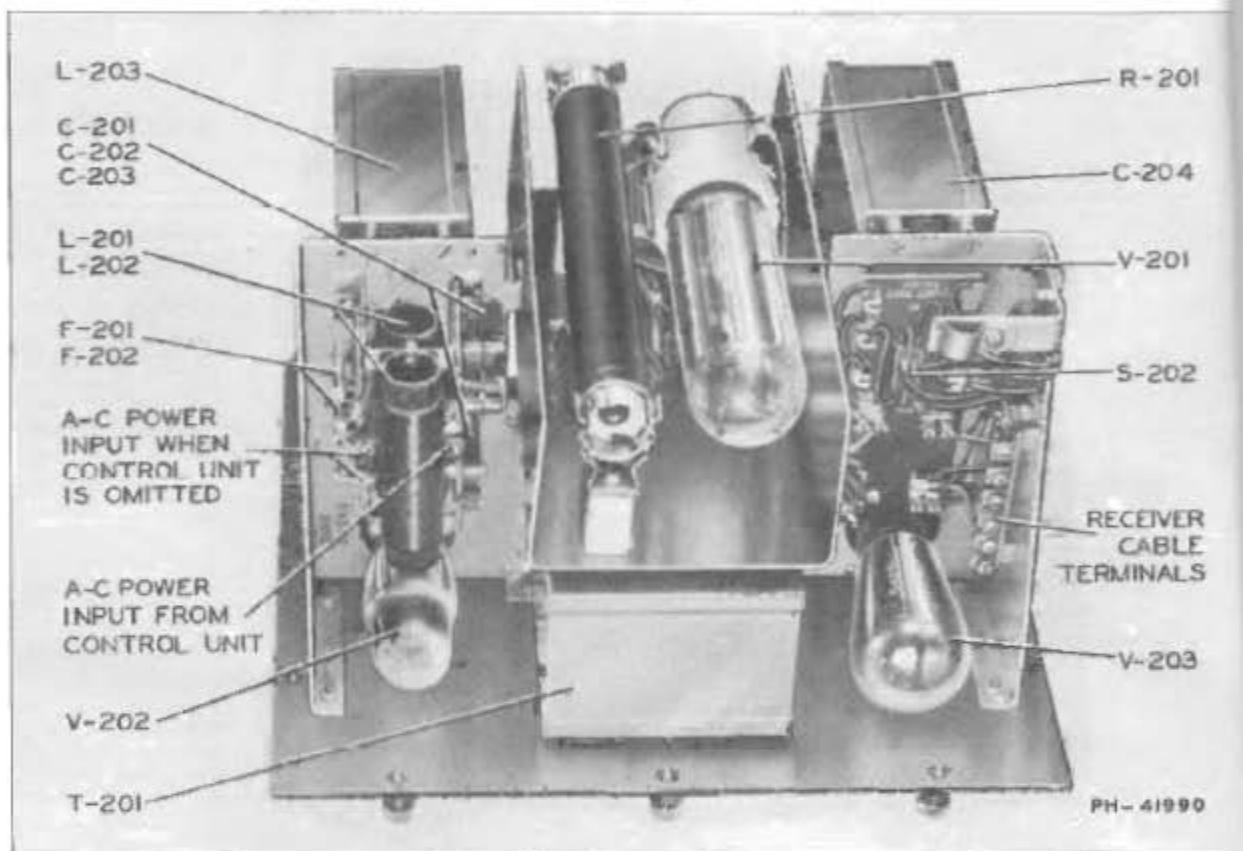

Figure 4—Power Unit CRV-20036A (Top View of Chassis—Covers Removed)
- 9.5-7 Referring to Figure 15, it will be observed that four terminals are provided for connecting the 110-, 115-, or 120-volt, 60-cycle supply to the power unit. When this equipment is used with the control unit, the power connection from the control unit to the power unit is made to the two right-hand terminals. When no control unit is employed, the connection is made to the left-hand terminals. Connecting to the two right-hand terminals removes the power switch on the panel from the circuit. (See Figure 4.)